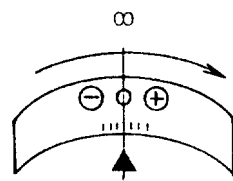

fig.3
2. Focus is detected by a couple of focus detecting sensors and the in-focus image on the fresnel screen is refocused on the each sensor. (fig.3)
5. If the auto focus accuracy is out of tolerance. add or remove Washers //128 for adjustments. (fig.3)
2. The test chart should be focused and positioned visible in the viewfinder as shown in figure 3, p.16.
- 3) Check if the test chart is properly positioned visible in the viewfinder as shown in figure 3, p.16.
Rotate the distance scale ring toward infinity and observe that the voltmeter reads 2V and then lower voltages. Stop the distance scale ring to the position where the voltmeter reads 0V. This is the start position. (fig.3)
Check if the test chart is properly positioned visible in the viewfinder as shown in figure 3, P.16.